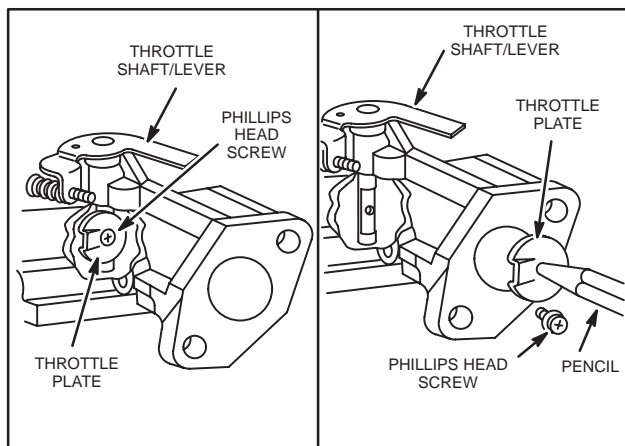

Fig. 178 – REMOVING THROTTLE
2. After removal of throttle plate, throttle shaft and dust seal may be lifted out, Fig. 178.